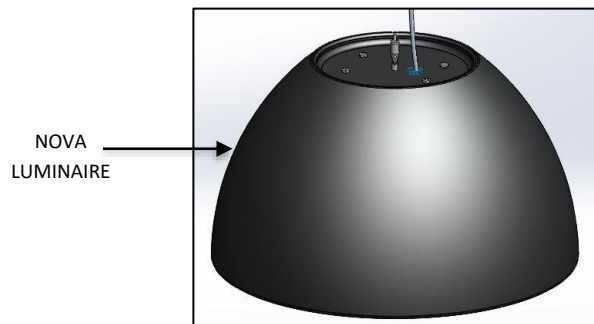

FIG. 2 NOVA LUMINAIRE (PRE-ASSEMBLED)
1. NOVA LUMINAIRE with CORD attached. (Pre-assembled as shown in FIG. 2)